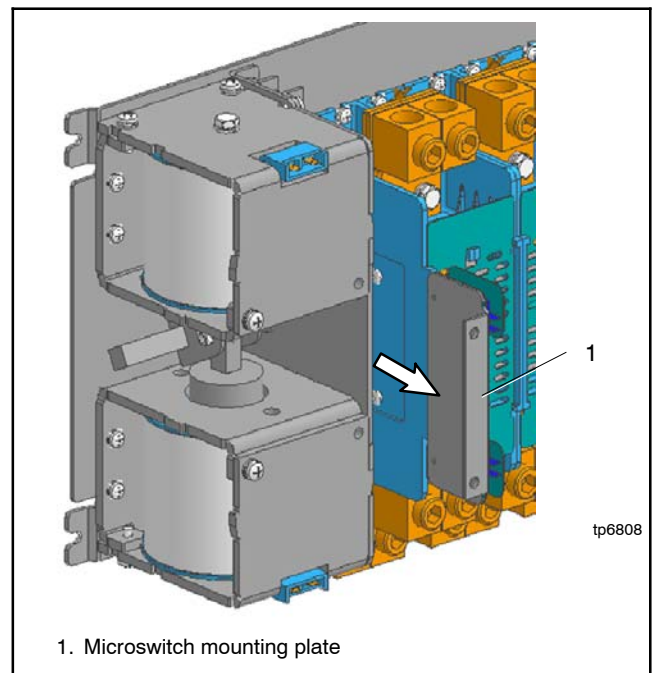

Figure 7-64 Microswitch Mounting Plate
2. Move the microswitch mounting plate toward the direction of arrow for removal. See Figure 7-64.